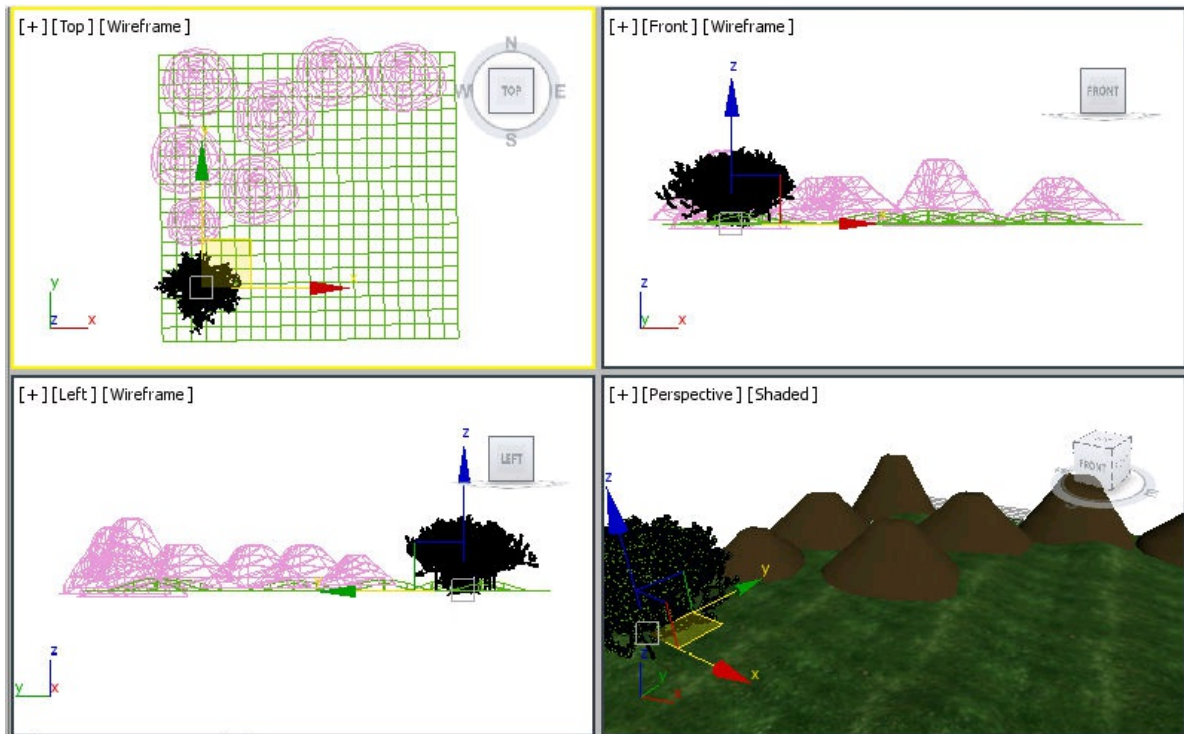

Figure 11-99 *Alignment of the tree01 in viewports*
6. Choose the **Select and Move** tool and align *tree01* in the viewports, as shown in Figure 11-99.